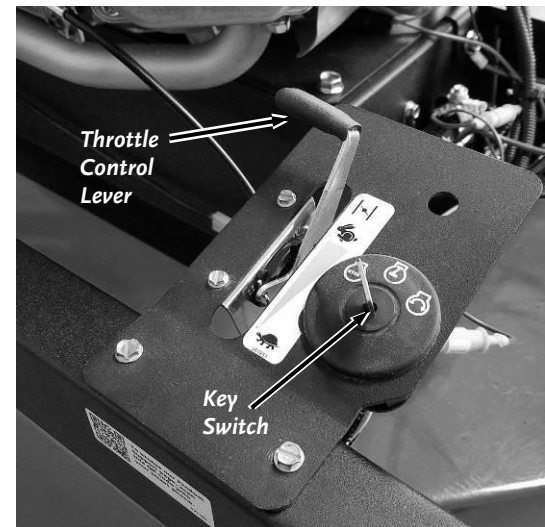

Figure 23
2. When starting a cold Engine, push the Throttle Control Lever up to the Choke  position (**Figure 23**). When starting an already warm Engine, push the Throttle Control Lever to the Run  position.
2. Move the Throttle Control Lever all the way down to the Idle  position and turn the Key to Stop  (**Figure 23**).